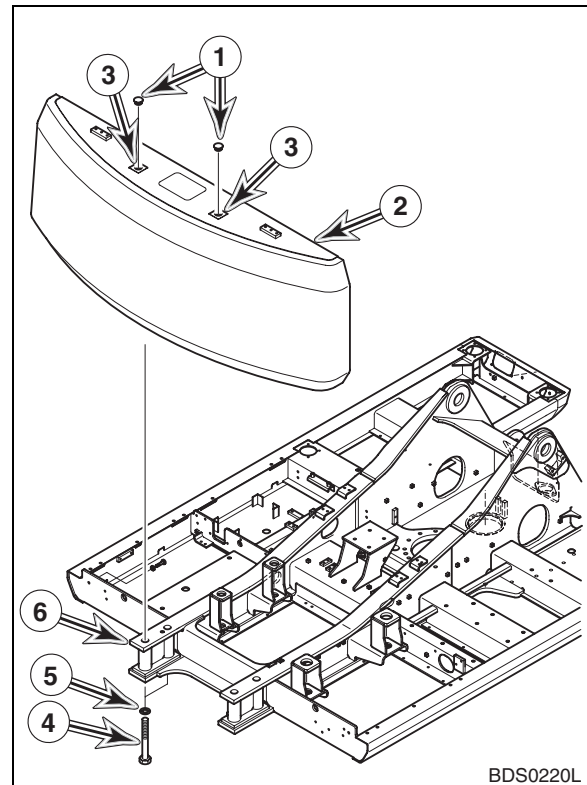

Figure 4
12. Remove two caps (1, Figure 4) from counterweight (2).
13. Install two lifting eyes in lifting holes (3, Figure 4).
14. Using a suitable lifting device capable of handling load, partially support counterweight (2, Figure 4) before beginning to loosen four bolts (4). Stop lifting with assist crane as soon as lifting slings are taut.
15. Remove four bolts (4, Figure 4) and washers/spacers (5) from counterweight (2).
16. When bolts (4, Figure 4) and washers/spacers (5) have been removed, lift counterweight (2) a very short distance above support frame (6) and stop. Check slings and make sure counterweight is being supported evenly.